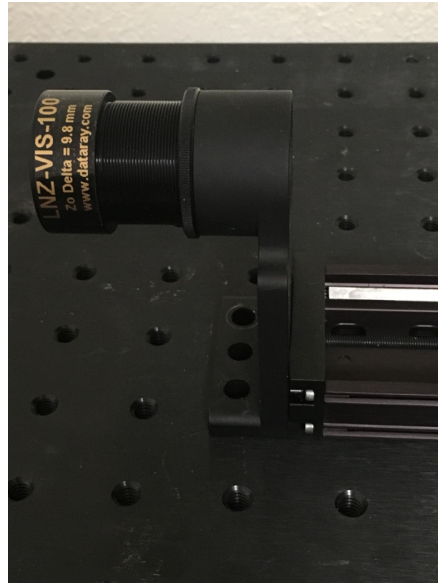

Fig. C.7: The **LNZ-XXX-YYY** lens assembly attaches to the lens mount bracket. The properly chosen lens will create a beam waist within the range of the M2DU stage
6. Add the **LNZ-XXX-YYY** lens assembly as shown in Fig. C.7.